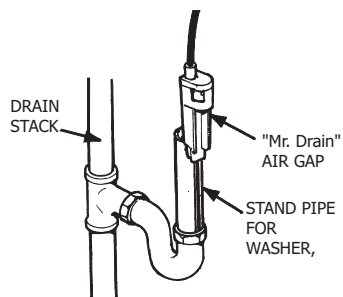

Figure 5
- Run the drain line to the air gap. The air gap must be installed between the end of the drain line and the drain to prevent possible back siphoning (see figure 5).